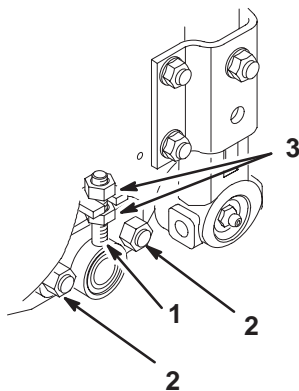

Figure 5
- Loosen the two locknuts securing the bedbar adjuster to the cutting unit side plate (Fig. 5).
- Adjust nuts to move bedbar adjuster up or down until paper is cut along entire bedknife surface, when bedknife adjustment knob is adjusted to no more than two clicks beyond first contact of reel bedknife (Fig. 5).